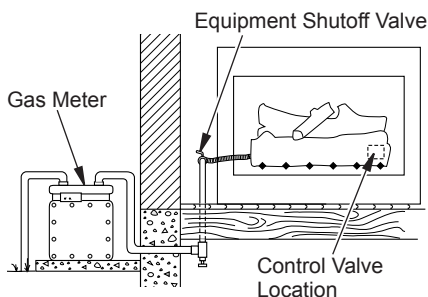

Figure 16 - Checking Gas Joints for Natural Gas
3. Check all joints from gas meter to equipment shutoff valve for natural gas or propane/LP supply to equipment shutoff valve for propane/LP (see Figure 16 or 17). Apply a noncorrosive leak detection fluid to gas joints. Bubbles forming show a leak.
4. Check all joints from equipment shutoff valve to control valve (see Figure 16 or 17). Apply a noncorrosive leak detection fluid to gas joints. Bubbles forming show a leak.